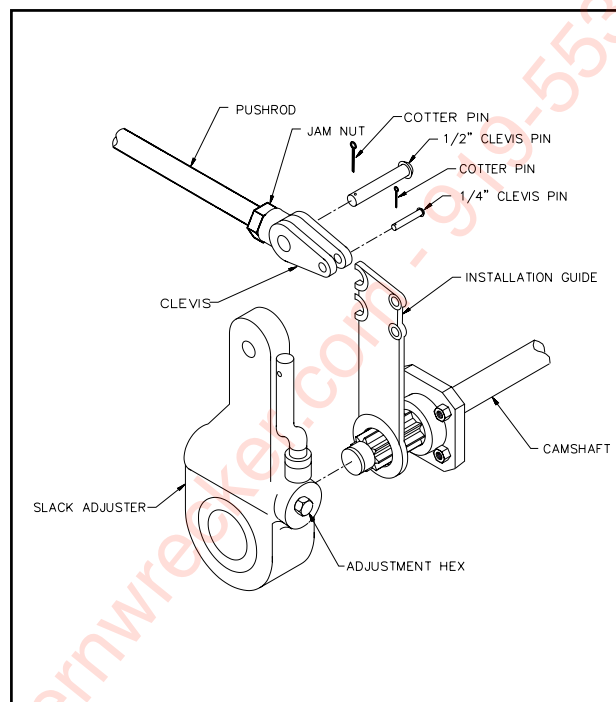

Figure 4-14 Slack Adjuster
4. Disconnect the slack adjuster from the connecting rod by removing the clevis pin (**See Figure 4-14**).
4. Remount the brake chamber on the axle brackets and reconnect the air service hoses and the slack adjuster connecting rod (**See Figure 4-14**).
a. Operational Check (See Figure 4-14)
b. Replacing Slack Adjuster (See Figure 4-14)